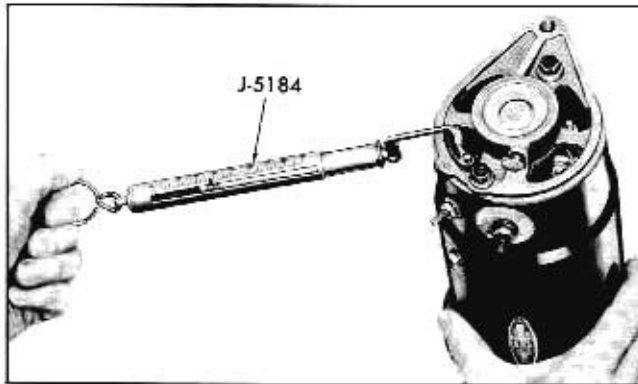

Fig. 11-7 Checking Brush Spring Tension
1. Place generator in bench vise; use vise as holding fixture only and be careful not to distort generator frame. **NOTE:** Check brush spring tension before disassembling generator to determine if spring is weak or brush holder is gummy (Fig. 11-7). Proper spring tension is approximately 28 ounces.